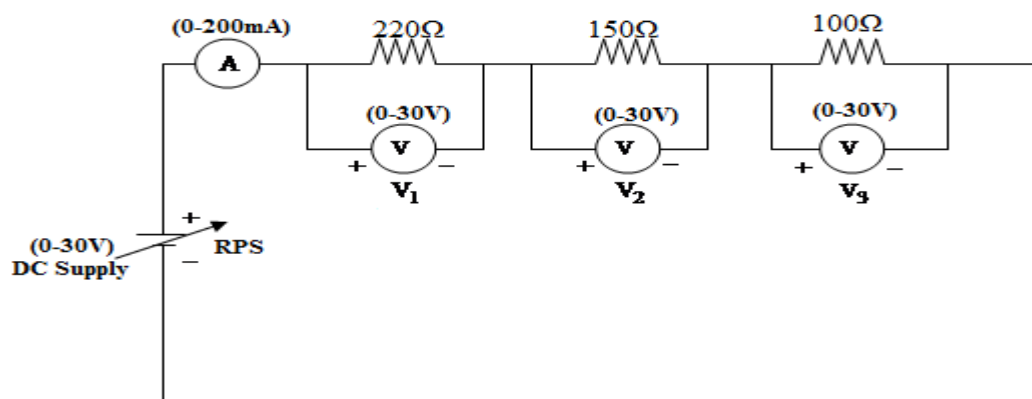

Figure 1
- Connect the circuit diagram as shown in Figure 1